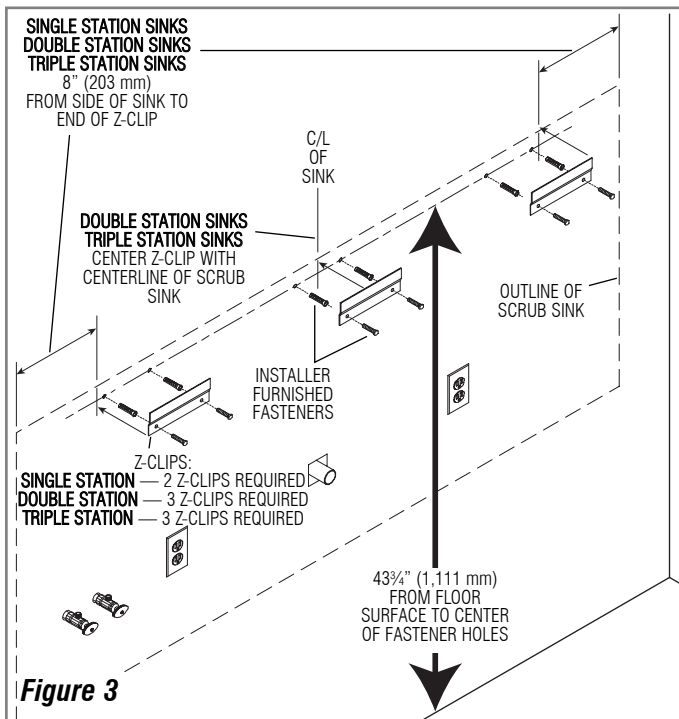

Figure 3
Step 3 — Install “Z” Clips to Wall (Figure 3)
Install “Z” Clips (using installer furnished fasteners) so that mounting holes measure 43³/₄ inches (1,111 mm) from floor surface for a standard 41 inch (1,041 mm) sink height. Refer to Figure 3 for complete dimensioning details.